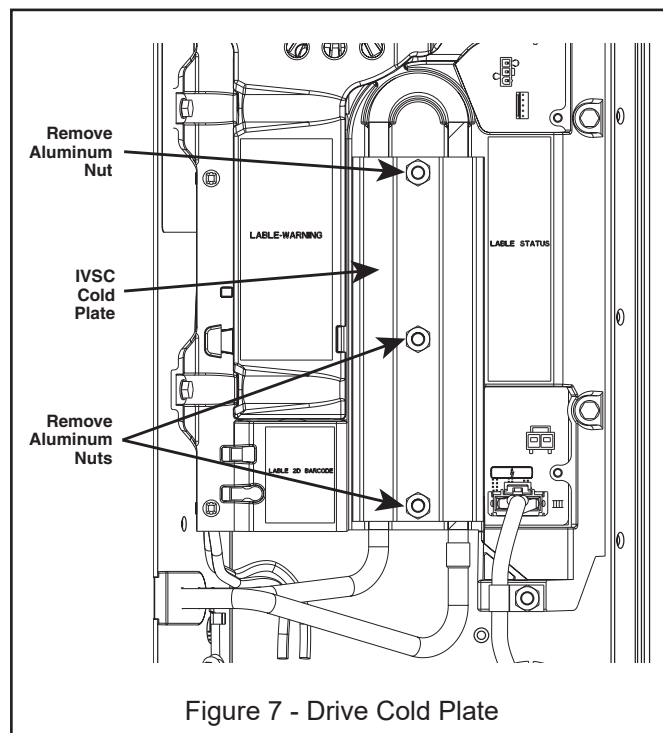

Figure 7 - Drive Cold Plate
1. Remove the three Aluminum nuts securing the Cold Plate to the Drive Assembly (See "Figure 7 - Drive Cold Plate") and set aside. You will use a Torque Wrench when reattaching Cold Plate to Drive.